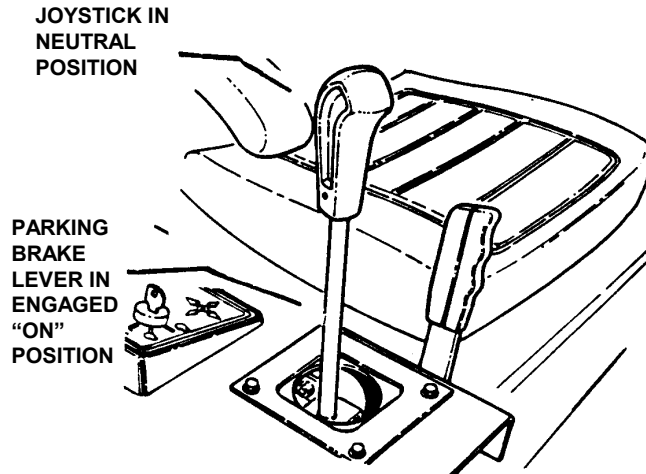

FIGURE 3.8
1. Engage parking brake by pulling the parking brake lever back to the "ON" position. See Figure 3.8.